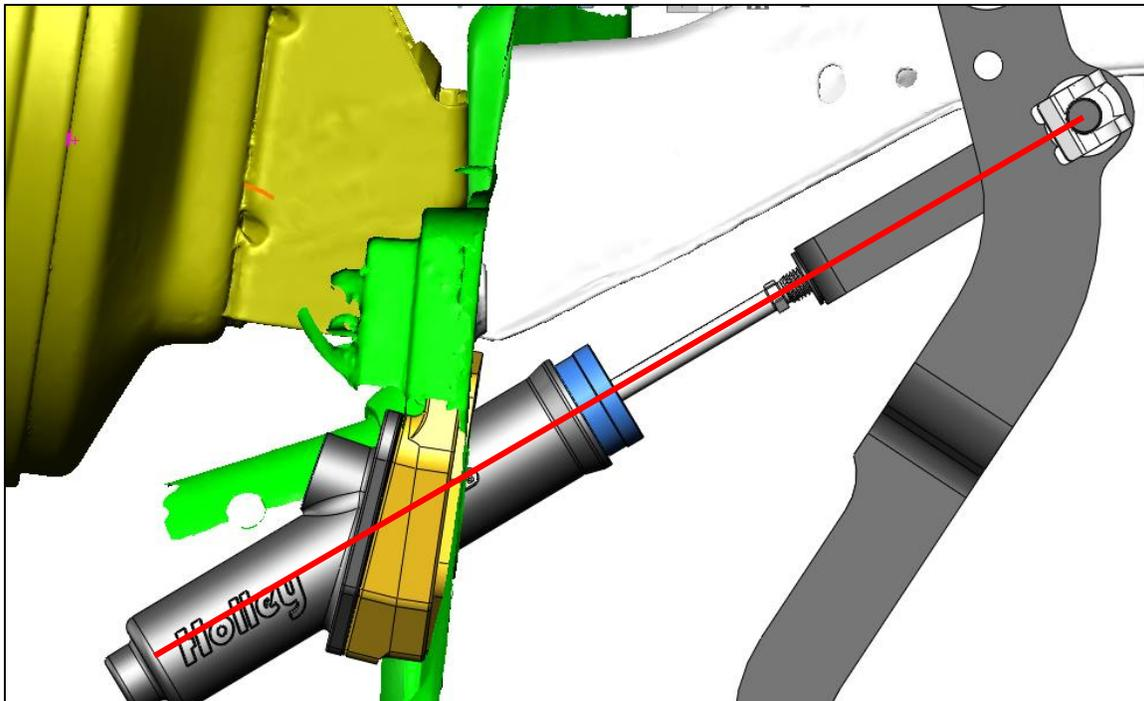

Figure 8: Clutch Linkage Positioning
26. Looking at the clutch master cylinder and linkage position, adjust the master cylinder mounting location until the linkage and the clutch master cylinder are in-line with one another as shown in Figure 8. Torque the 1/4-20 bolts to 15 ft./lbs.